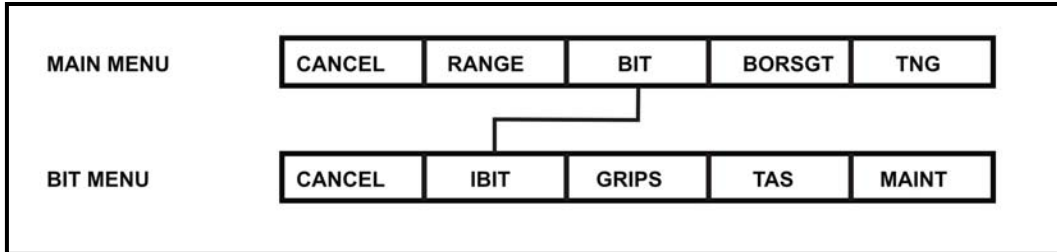

Figure 2-34. BIT menu tree.
(3) **BIT Menu.** The BIT menu displays when the gunner selects BIT from the MAIN MENU. The primary purpose of this menu is to conduct the initiated built-in test (IBIT) during system checkout procedures (Figure 2-34, page 2-26). The BIT menu has five selections: